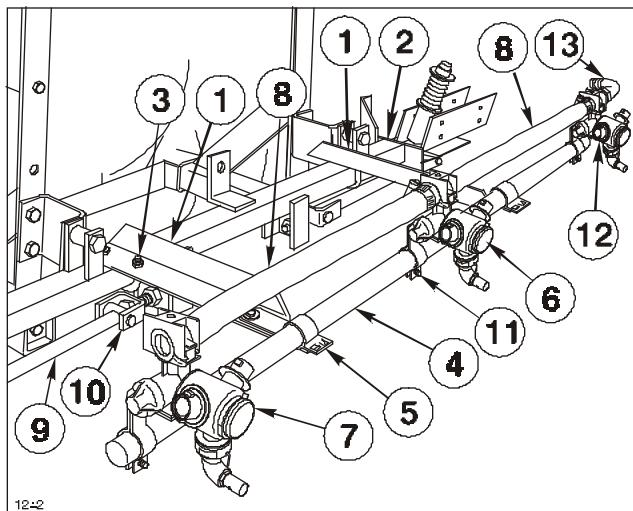

FIG. 13
6. Position the (2) Center Boom angles on the Main Frame and secure them to the Main Frame tube with (2) square U-bolts, (4) flat washers and hex nuts. See FIG. 13.
7. Center and attach the Center Boom Pipe to the two Center Boom Angles with (2) clamps, (2) 3/8" x 1" cap screws, flat washers and lock nuts. Once mounted the Center Boom Pipe should be approx. 20" (508mm) to 30" (762mm) from ground.
8. Loosely attach the Double Barb Turret Body with the Turret Body Clamp in the approximate center of the Center Boom Pipe. For the most uniform spray coverage, position all Nozzles level as shown in FIG. 13.
10. Place two Hose Clamps on two 3/4" x 19" Jumper Hoses and connect the two "end" Turret Bodies to the Double Barb Turret Body. Space nozzles 20" apart and tighten fasteners securely. Apply thread sealer and install the 90° 3/4" Hose Barb on the Threaded Turret Body. See FIG. 13.
11. Attach the two Strut Assemblies to the two adjustable clevis' found on each side of the Main Frame tube with (2) 1/2" x 2" clevis pins and (2) 1/8" x 1" cotter pins. See FIG. 13.
16. Adjust the Booms to a level position by adjusting the jam nuts on the adjustable clevis assemblies (See FIG. 13) to the desired position, then tighten the end nuts against the Main Frame plate.
**27.** Attach a 3/4" x 50" hose to Hose Barb in bottom of Cross. Route to 90° Hose Barb at R.H. end of Center Boom Pipe. (See FIG. 13) Mark Hose and cut to proper length. Attach hose to 90° Hose Barb using hose clamp.